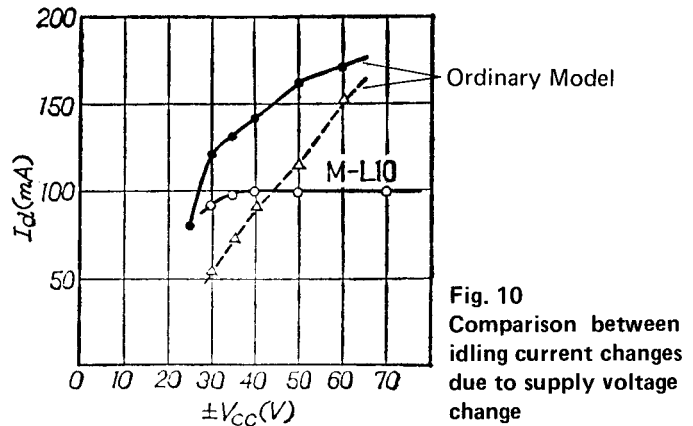

Fig. 10 Comparison between idling current changes due to supply voltage change
This relates to feature (1). A large change of the supply voltage does not lead to change of the idling current. This is a great feature of stable operating point. When this circuit is compared with an ordinary circuit, it is as shown in Fig. 10. Practically, even when the voltage at the AC primary side drops from 100 % to 50 %, M-L10 operates normally with no change of the distortion rate except that the maximum rated output drops from 160 W to 40 W, thus providing high stability.